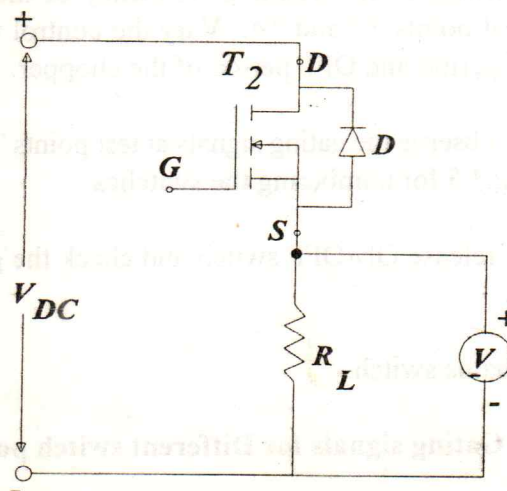

Fig.E.2.1 Single Quadrant Chopper.
1. Using the chopper module connect the circuit as shown in Fig.E.2.1 use either the switch T_2 or T_4 .